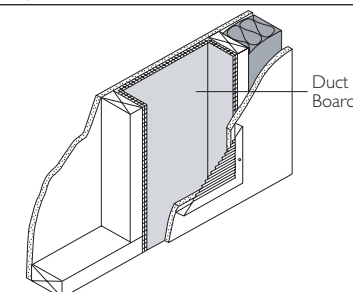

Figure 7
- Always use caulking, gaskets or gypsum board to seal wall penetrations (see Figure 7).